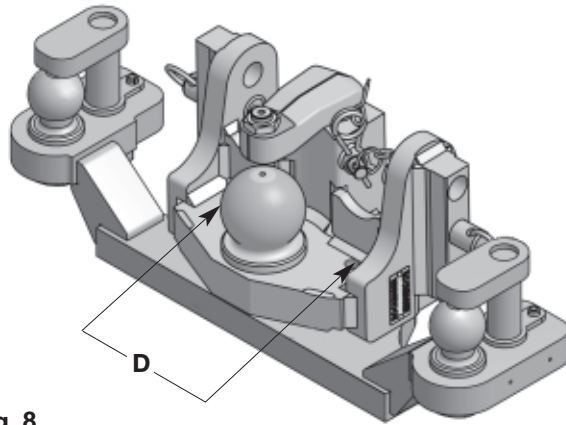

Fig. 8
The ball coupling can be supplied optionally with two borings M16 (D) (see fig. 8). These are provided for the fastening of a ROCKINGER adapter for control of trailer-side power steering (e.g. RO★70L052, RO★70L053, RO★74L026).